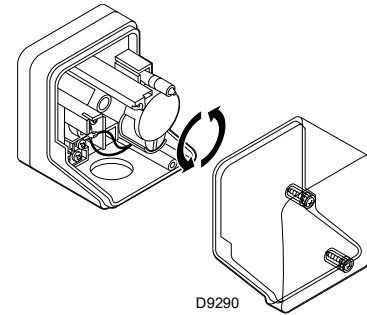

Fig. 38
- Adjust the low gas pressure switch to the start of the scale (Fig. 38).
- Adjust the high gas pressure switch to the upper limit of the scale (Fig. 38).
- Adjust the air pressure switch to the zero position of the scale (Fig. 38).
- Fit a U-type manometer (Fig. 38) to the gas pressure test point on the sleeve. The manometer readings are used to calculate MAX. burner power.
Adjust the minimum gas pressure switch (Fig. 38) after having adjusted the burner, the gas valves and the gas train stabiliser. With the burner operating at maximum output: